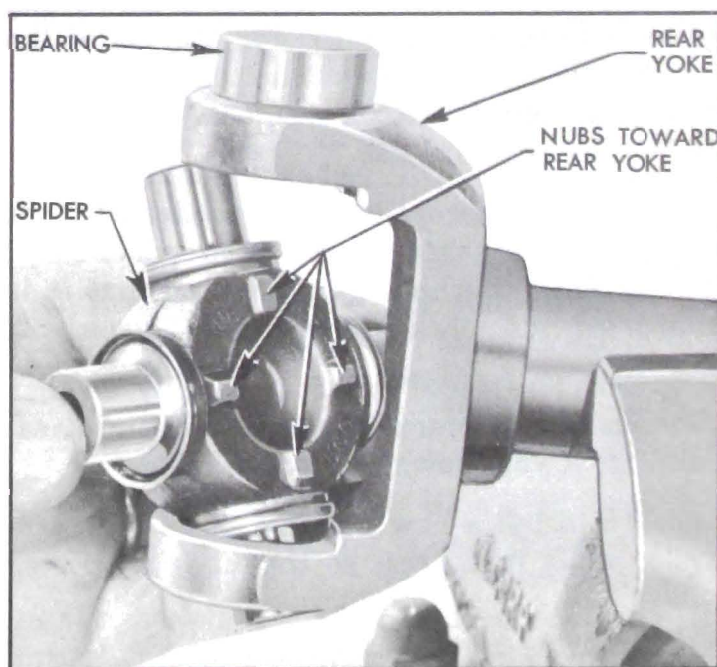

Figure 6-14—Installing Spider in Rear Yoke
2. Position spider in partially installed bearing. See figure 6-14. *NOTE: Spider must be installed so locating lugs are facing toward propeller shaft tube.*